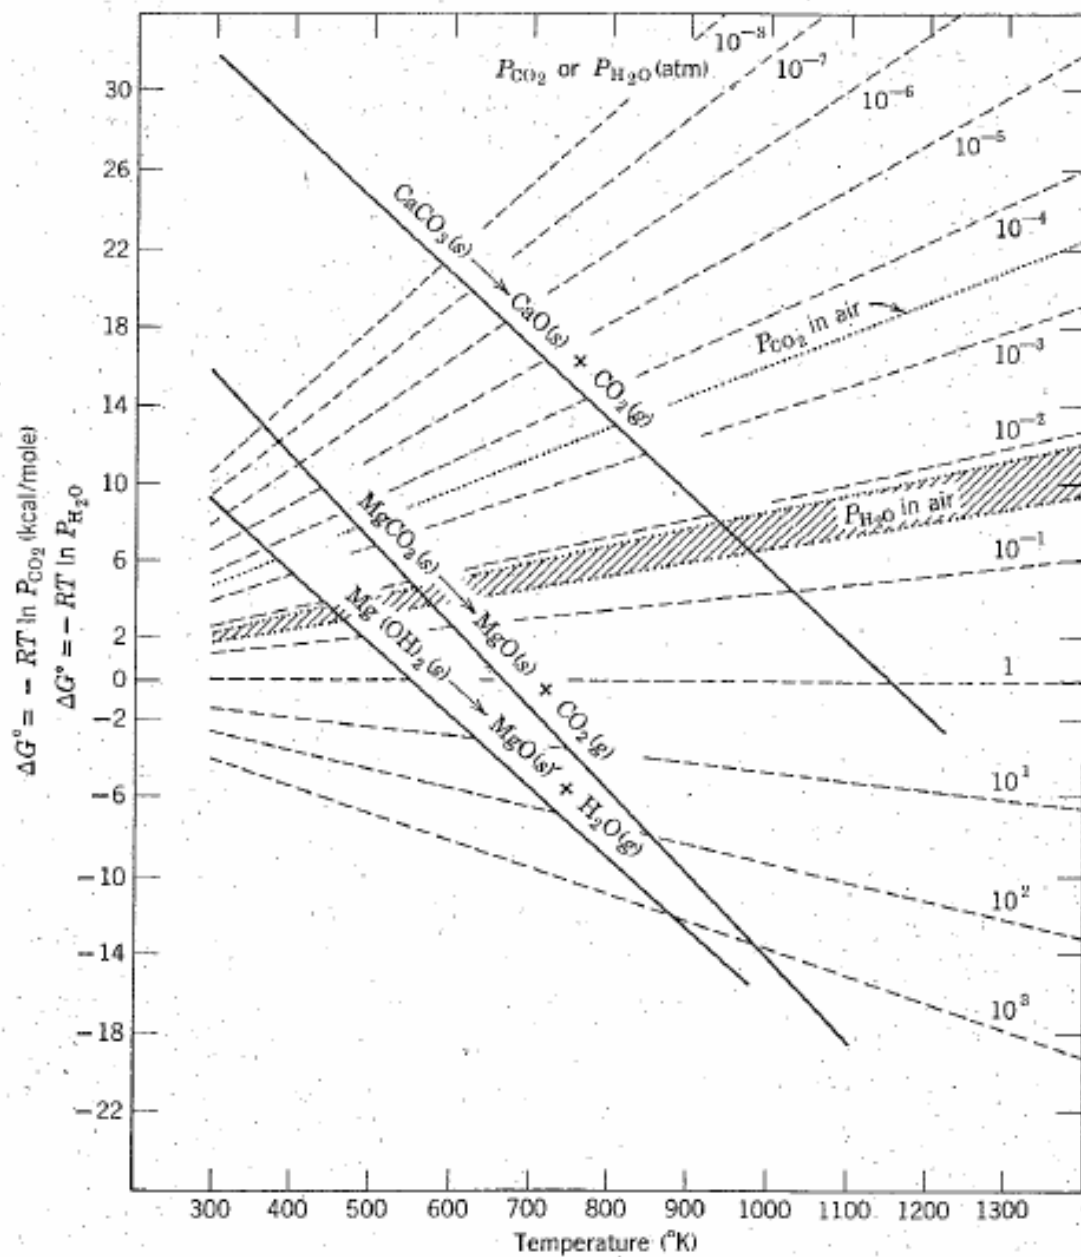

Figure 3.2: Thermodynamic data for Mg and Ca oxides and carbonates.
- 2) In the days before the industrial revolution the  $P_{CO_2}$  in the earth's atmosphere was 275 ppm. Use the data in Figure 3.2 to calculate how high one would need to heat  $CaCO_3$  to decompose it at a  $P_{CO_2}$  for the preindustrial concentration of 275 ppm and for present day  $P_{CO_2}$  (You will have to look this up, please give your source). Also calculate how high one would need to heat  $CaCO_3$  to decompose it if the  $CO_2$  level in the atmosphere reaches 500 ppm.